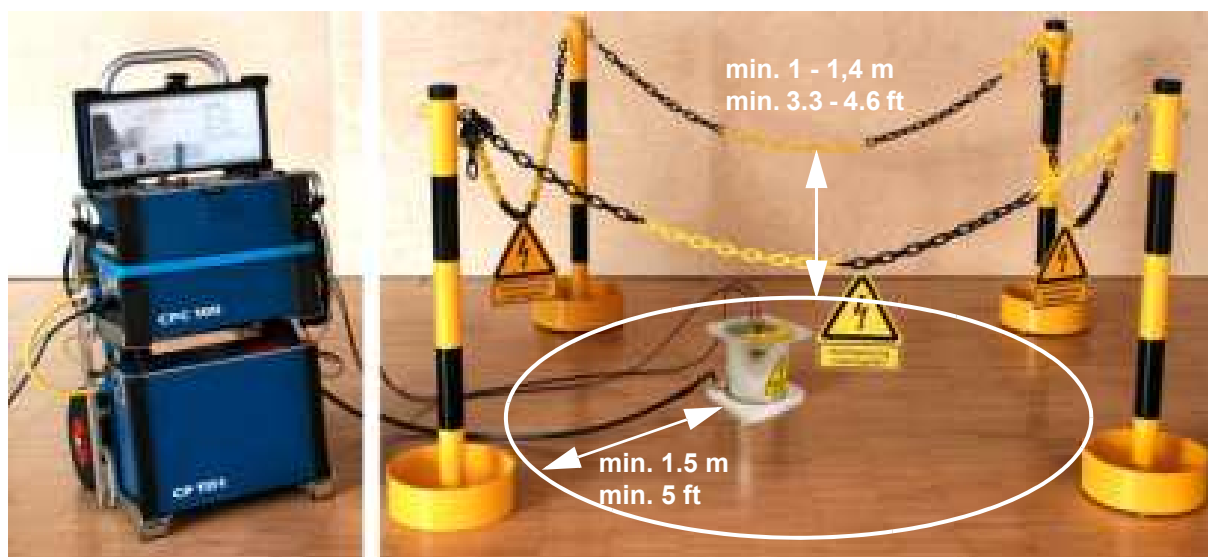
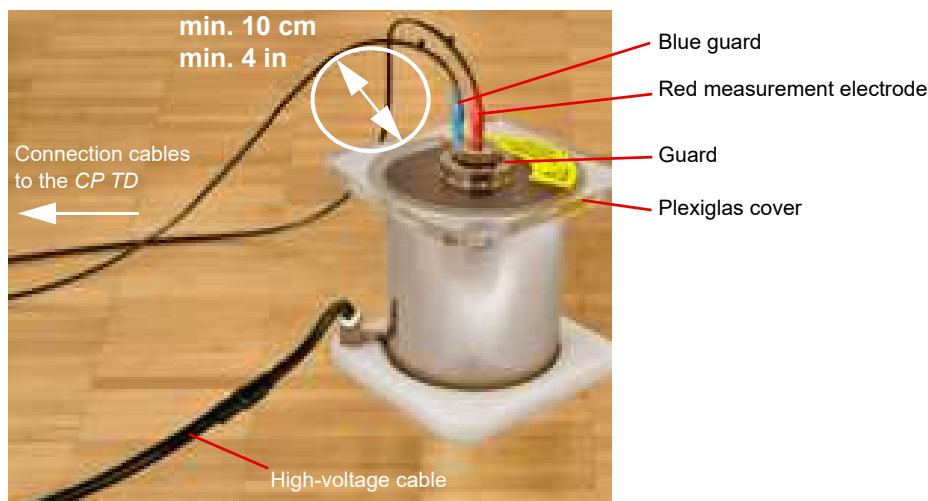

Figure 3-3: Typical test setup with CP TC12 connected to the CP TD1
Figure 3-4: Oil test cell *CP TC12*
- ▶ Make sure that nobody can enter this prohibition zone during testing. Use walls or safety barriers for protection as shown in Figure 3-3 below. Keep a minimum of 150 cm (59 inches) from the test cell to the barriers in all directions, and make sure that the high-voltage warning signs are clearly visible.
Figure 3-3 shows a typical test setup with the CP TC12 connected to the CP TD1, for example. For a more detailed view, also see Figure 3-4 on the next page.
6. Erect a safety barrier as depicted in Figure 3-3: "Typical test setup with CP TC12 connected to the CP TD1" on page 28.